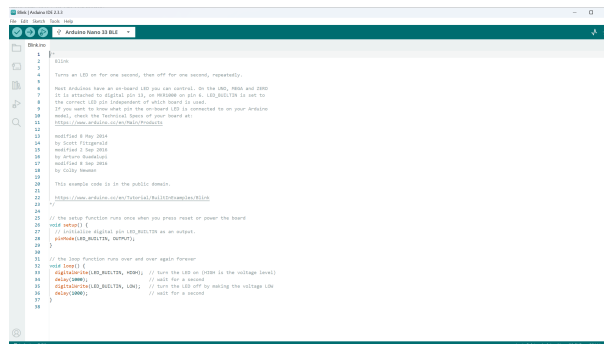

Figure 3.9.: LED-Built Example
3. **Blink Example Sketch:** After following steps 1 and 2, the Example Sketch **blink.ino** will open in a new window within the IDE as seen in Figure 3.9.